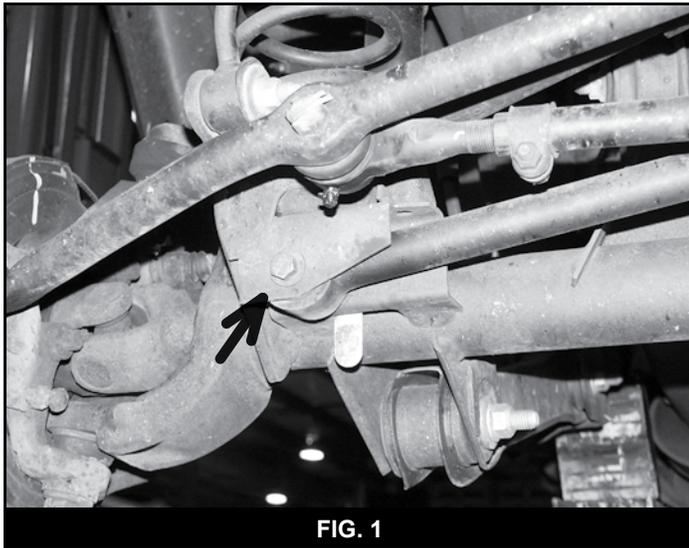

FIG. 1
2. Remove the bolt mounting the front track bar to the passenger's side of the axle (Figure 1). Save track bar bolt and nut tab. Allow the track bar to hang free. *Note: The track bar bolt may require a T-50 Torx socket on early models.*